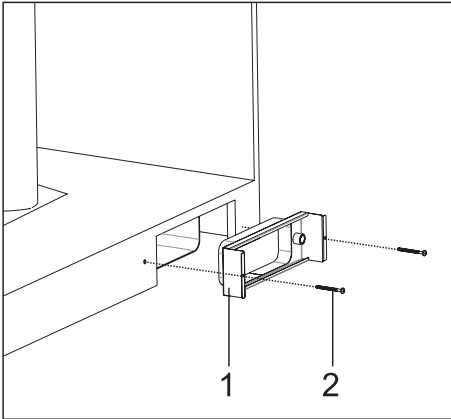

Fig. 27
2. Loosen the connecting screw (Fig. 27/1) and remove the activated carbon filter housing (Fig. 27).